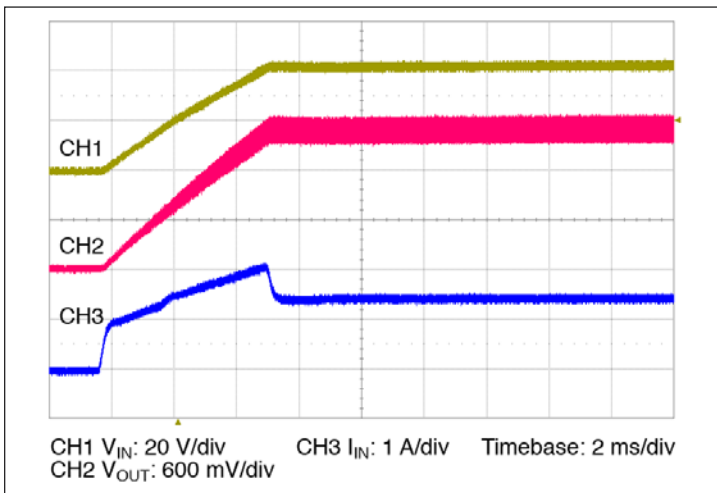

Figure 13 — Start up from application of V_{IN} ; VC pre-applied $C_{OUT} = 0\ \mu\text{F}$
- **Normal Operation (VC applied prior to V_{IN}):** In this case the controller is active prior to ramping the input. When the input voltage is applied, the VTM output voltage will track the input (See Figure 13). The inrush current is determined by the input voltage rate of rise and output capacitance. If the VC voltage is removed prior to the input reaching 26 V, the VTM module may shut down.